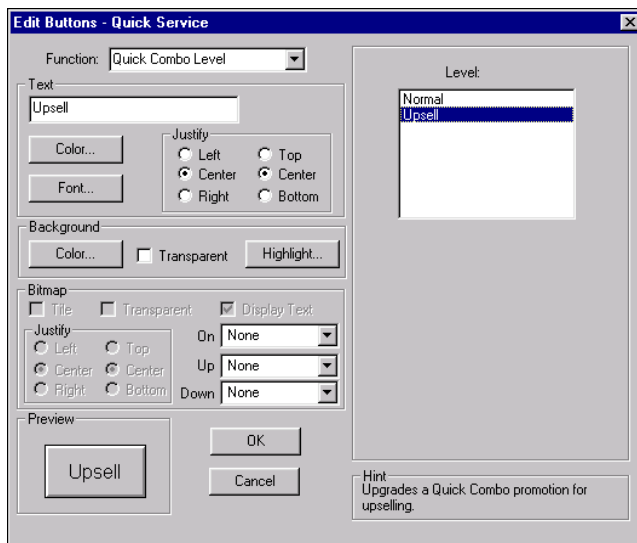

Figure 5-97 Quick Combo Level Button Function
1. Select **Quick Combo** from the **Function** drop-down list. An additional option displays, as shown in Figure 5-97: